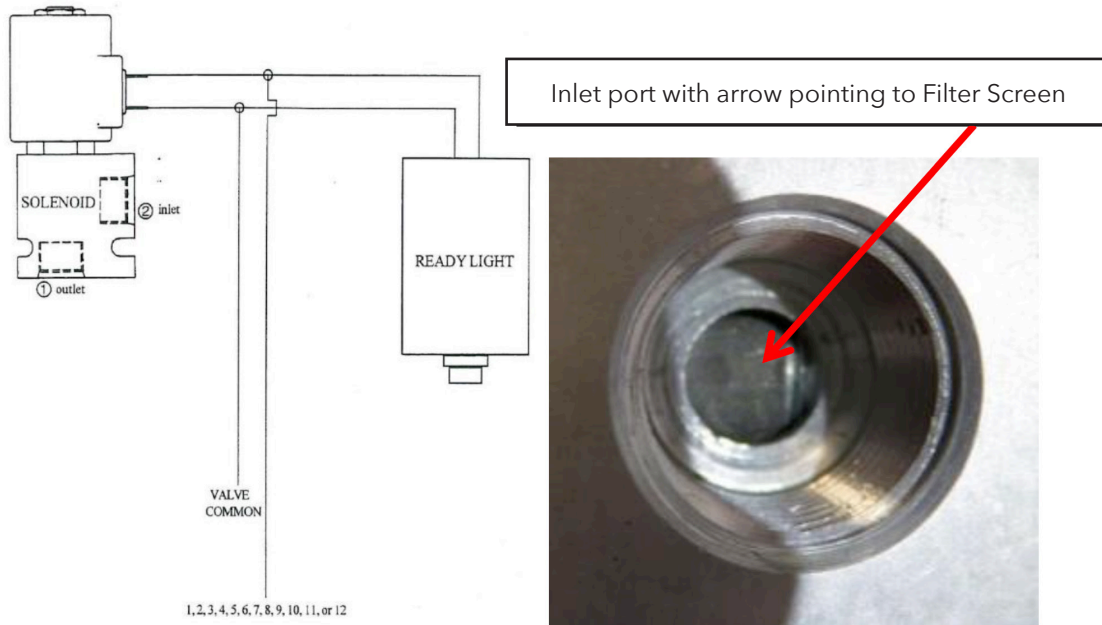

Figure 4, Fluid Solenoid Valve and Ready Light Wiring Diagram
- o 1/2" NPT (F), 1,000 PSI maximum working pressure, fluid flow is *not* directional
- o *Electrical*: Two (2), non-polarized pigtail wires
- 1/2" NPT (F), 3,000 PSI maximum working pressure, fluid flow *is* directional (see Figure 4)
Splice one (1) ready light wire to one of the fluid solenoid wires. Splice the other ready light wire to the other fluid solenoid valve wire (Figure 4). Run each spliced wire to the expander and connect one (1) spliced wire into a valve terminal (labeled 1-12) and the other spliced wire into a valve common terminal (labeled "VALVE COMMON").